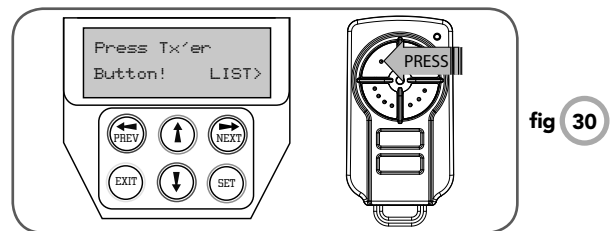

fig 30
2. Press the transmitter button you wish to use to operate the Gate Opener (e.g. button 1) (**Fig. 30**).